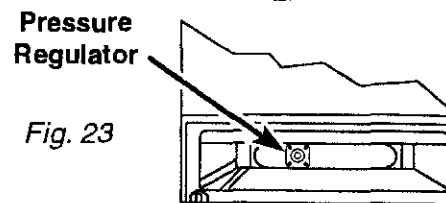

Fig. 23
3. Remove storage drawer and oven racks. The pressure regulator is located at the rear of the cabinet behind the storage drawer. (Fig. 23)